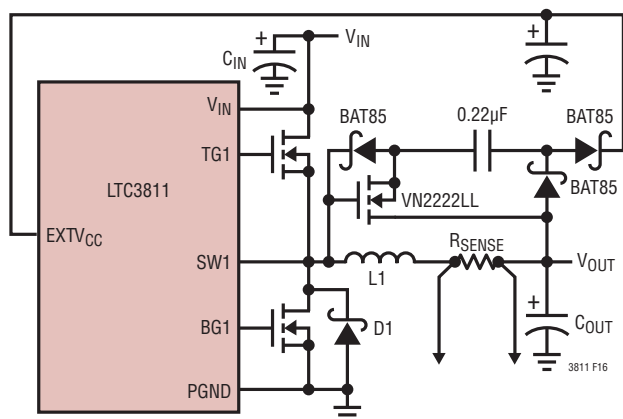

Figure 16. Capacitive Charge Pump for EXTVCC
3. EXTVCC connected to an output-derived boost network. For 3.3V and other low voltage regulators, efficiency gains can still be realized by connecting EXTVCC to an output-derived voltage which has been boosted to greater than 4.5V but less than 7V. This can be done with a capacitive charge pump shown in Figure 16.
The optional Schottky diode, D1, shown in Figure 16 conducts during the dead-time between the conduction of the two power MOSFETs. This prevents the body diode of the bottom MOSFET from turning on, storing charge during the dead-time and requiring a reverse recovery period that could cost as much as 1% in efficiency at high  $V_{IN}$ . A 1A to 3A Schottky is generally a good compromise for both regions of operation due to the relatively small average current. Larger diodes result in additional transition losses due to their larger junction capacitance.